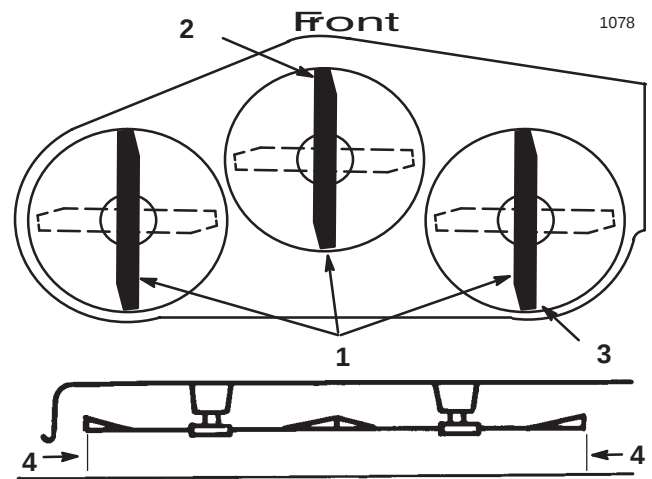

Figure 39
5. Set the height-of-cut at 3 in. (76 mm) and carefully rotate the blades so they are facing front to rear (Fig. 39).
6. Measure between the tip of the front blade (Fig. 39) and the tip of the rear blade to the flat surface. If the front blade tip is not 1/16–5/16 in. (1.6–7.9 mm) lower than the rear blade tip, adjust the front trunion rods.
9. After adjusting both trunion rod yokes evenly, secure the yokes with the hairpin coppers. Check the front-to-rear level again. Continue adjusting the yokes until the front blade tip is 1/16–5/16 in. (1.6–7.9 mm) lower than the rear blade tip (Fig. 39).